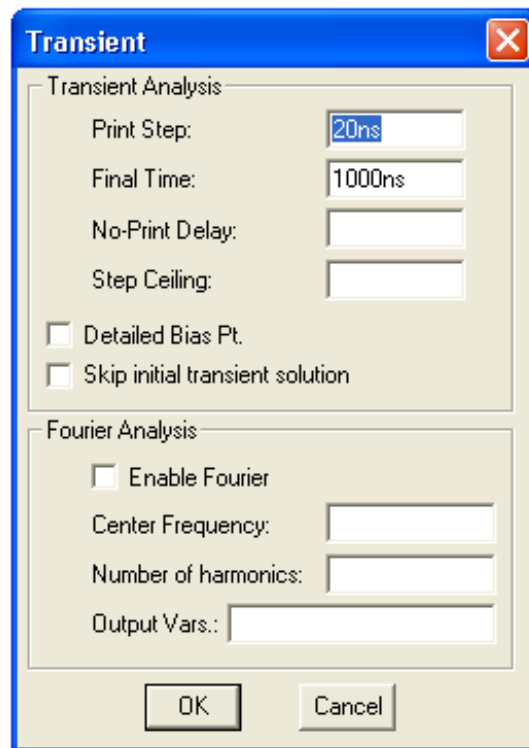

Figure 6
- Two very important parameters in the transient analysis are (see Figure 6):